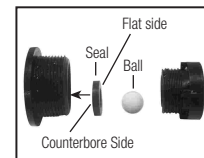

Figure 6
8) To rebuild disassemble two halves of cartridge and replace seal and/or ball. Replace cartridge (Figure 6). The seal mounts inside the larger of the two halves of the cartridge. The seal counterbore side mounts into the grooves in the cartridge half. Pump performance may be affected if this is not assembled correctly.